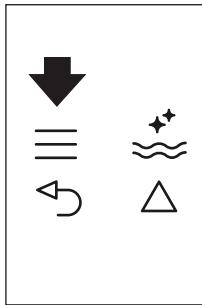

Fig. 22
- Press the \equiv icon (B2) to enter the menu (Fig. 22).